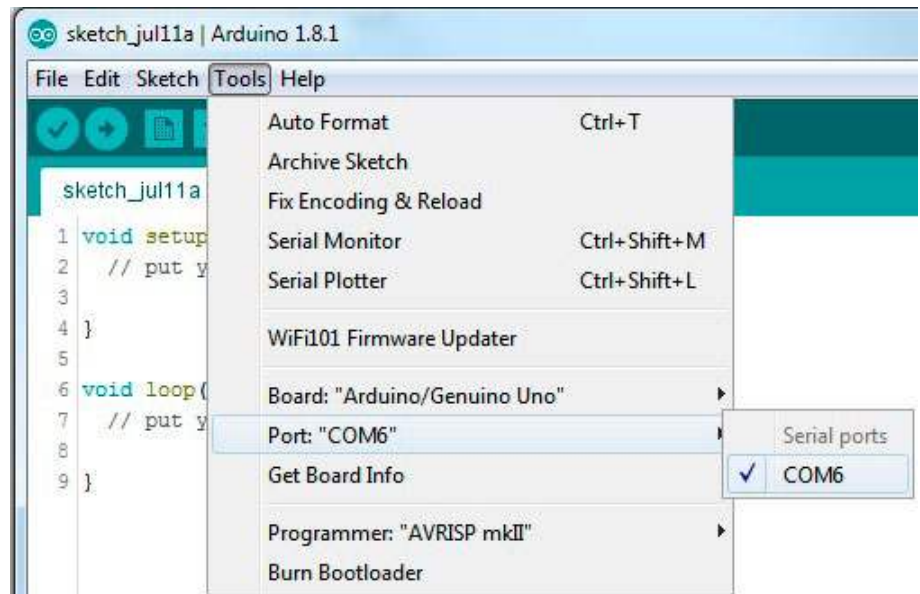

Figure 5. Selecting Correct COM
4. Select the correct COM port to allow communication to DC2026 through USB. Under the **Tools** menu, select **Port** → Select the highest number **COMxx** with the ✓ check mark symbol. There may be more than one option; DC2026 is usually the highest COM port number. The PC screenshots (Figure 5) used in this example show the DC2026 connected to COM6.